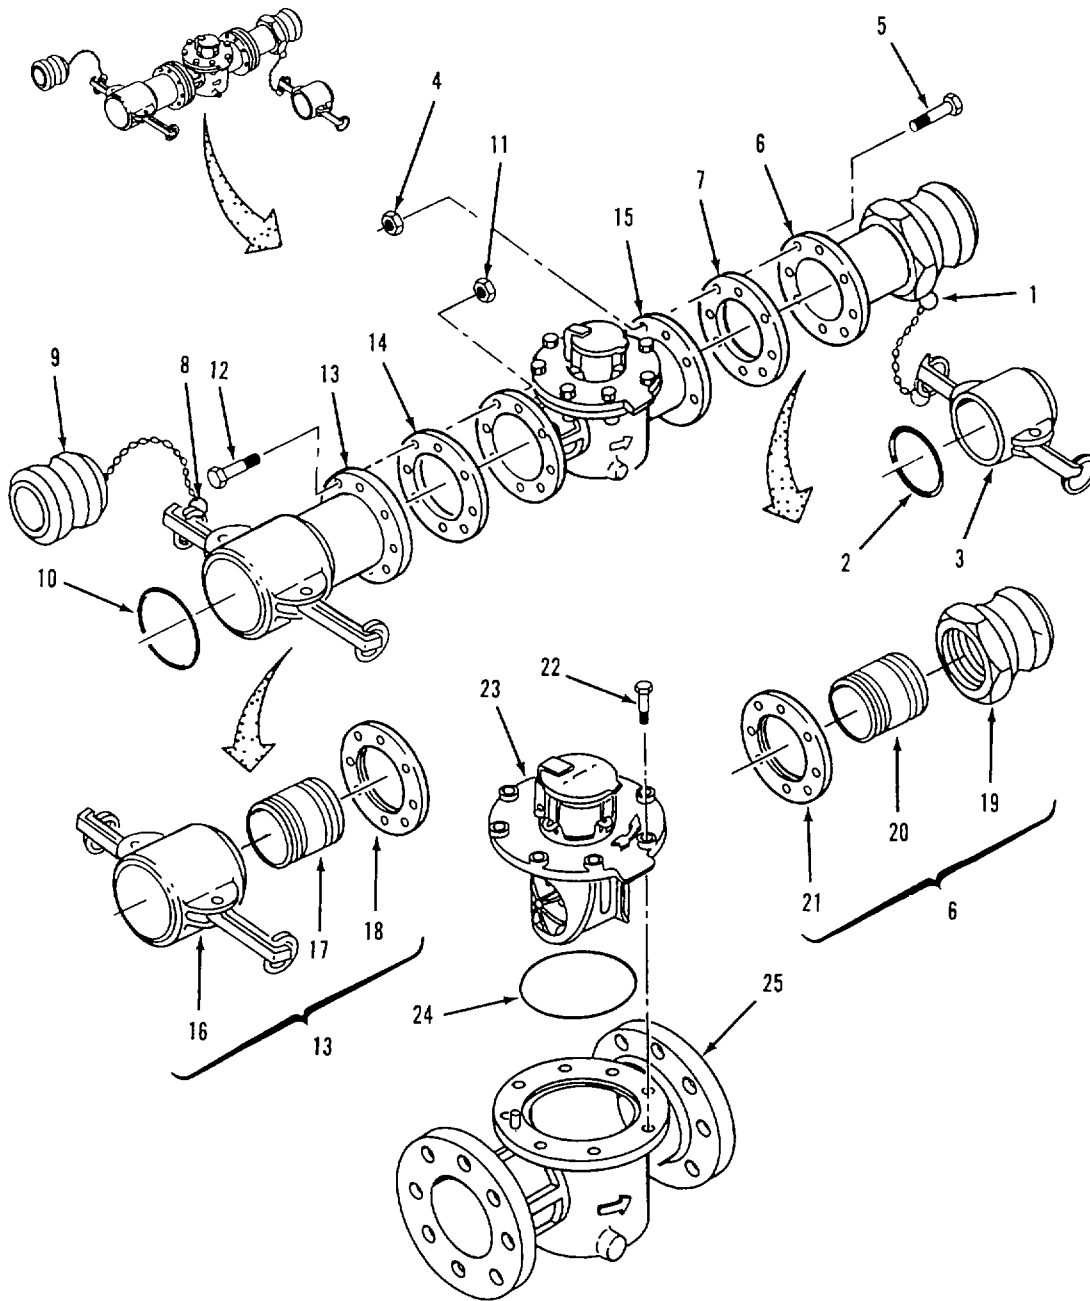

Figure 4-9. Water Meter Repair.
- a. Disassembly Refer to figure 4-9.
- (1) Disconnect ring (1) from male coupling (9) and remove cap (3).
- (2) Remove gasket (2) from cap (3).
- (3) Remove eight self locking nuts (4) and screws (5).
- (4) Separate male coupling (6) and gasket (7) from meter (15).
- (5) Disconnect ring (8) from female coupling (13) and remove plug (9).
- (6) Remove gasket (10) from female coupling (13).
- (7) Remove eight self locking nuts (11) and screws (12).
- (8) Separate female coupling (13) and gasket (14) from meter (15).
- (9) If required, remove female coupling end (16) and nipple (17) from adapter (18).
- (10) If required, remove male coupling end (19) and nipple (20) from adapter (21).
- (1) Inspect female coupling end (16), male coupling end (19) and adapters (18 and 21) for cracks, stripped threads, and corrosion.
- (2) Inspect body (25) for cracks and corrosion.
- (3) Inspect metering element (23) for cracks, damage, and corrosion.
f. Assembly. Refer to figure 4-9.